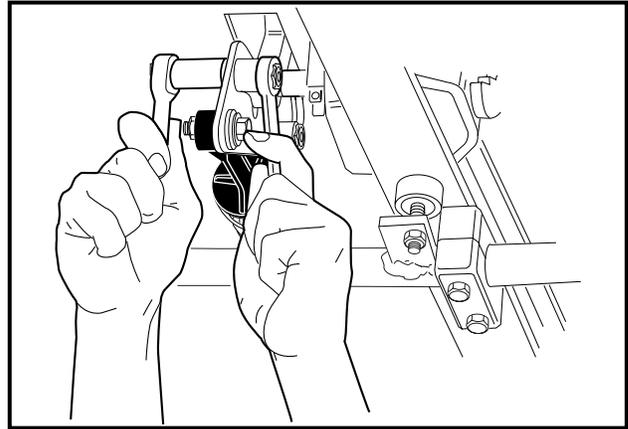

Figure 5-20 Accelerator Pedal Height Adjustment
- 5.1. Loosen the nut and bolt (**Figure 5-20, Page 5-15**) securing the accelerator pedal to the pivot plate.